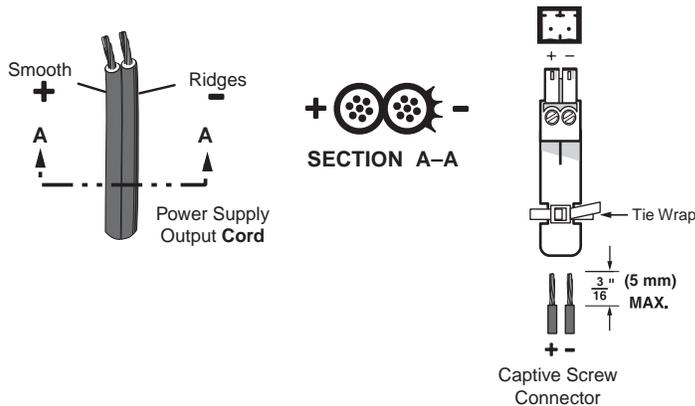

Figure 11. Power Connector Wiring
Figure 11 shows how to wire the connector. Use the supplied tie-wrap to strap the power cord to the extended tail of the connector.
- Power supply voltage polarity is critical. Incorrect voltage polarity can damage the power supply and the unit. The ridges on the side of the cord (see figure 11) identify the power cord negative lead.